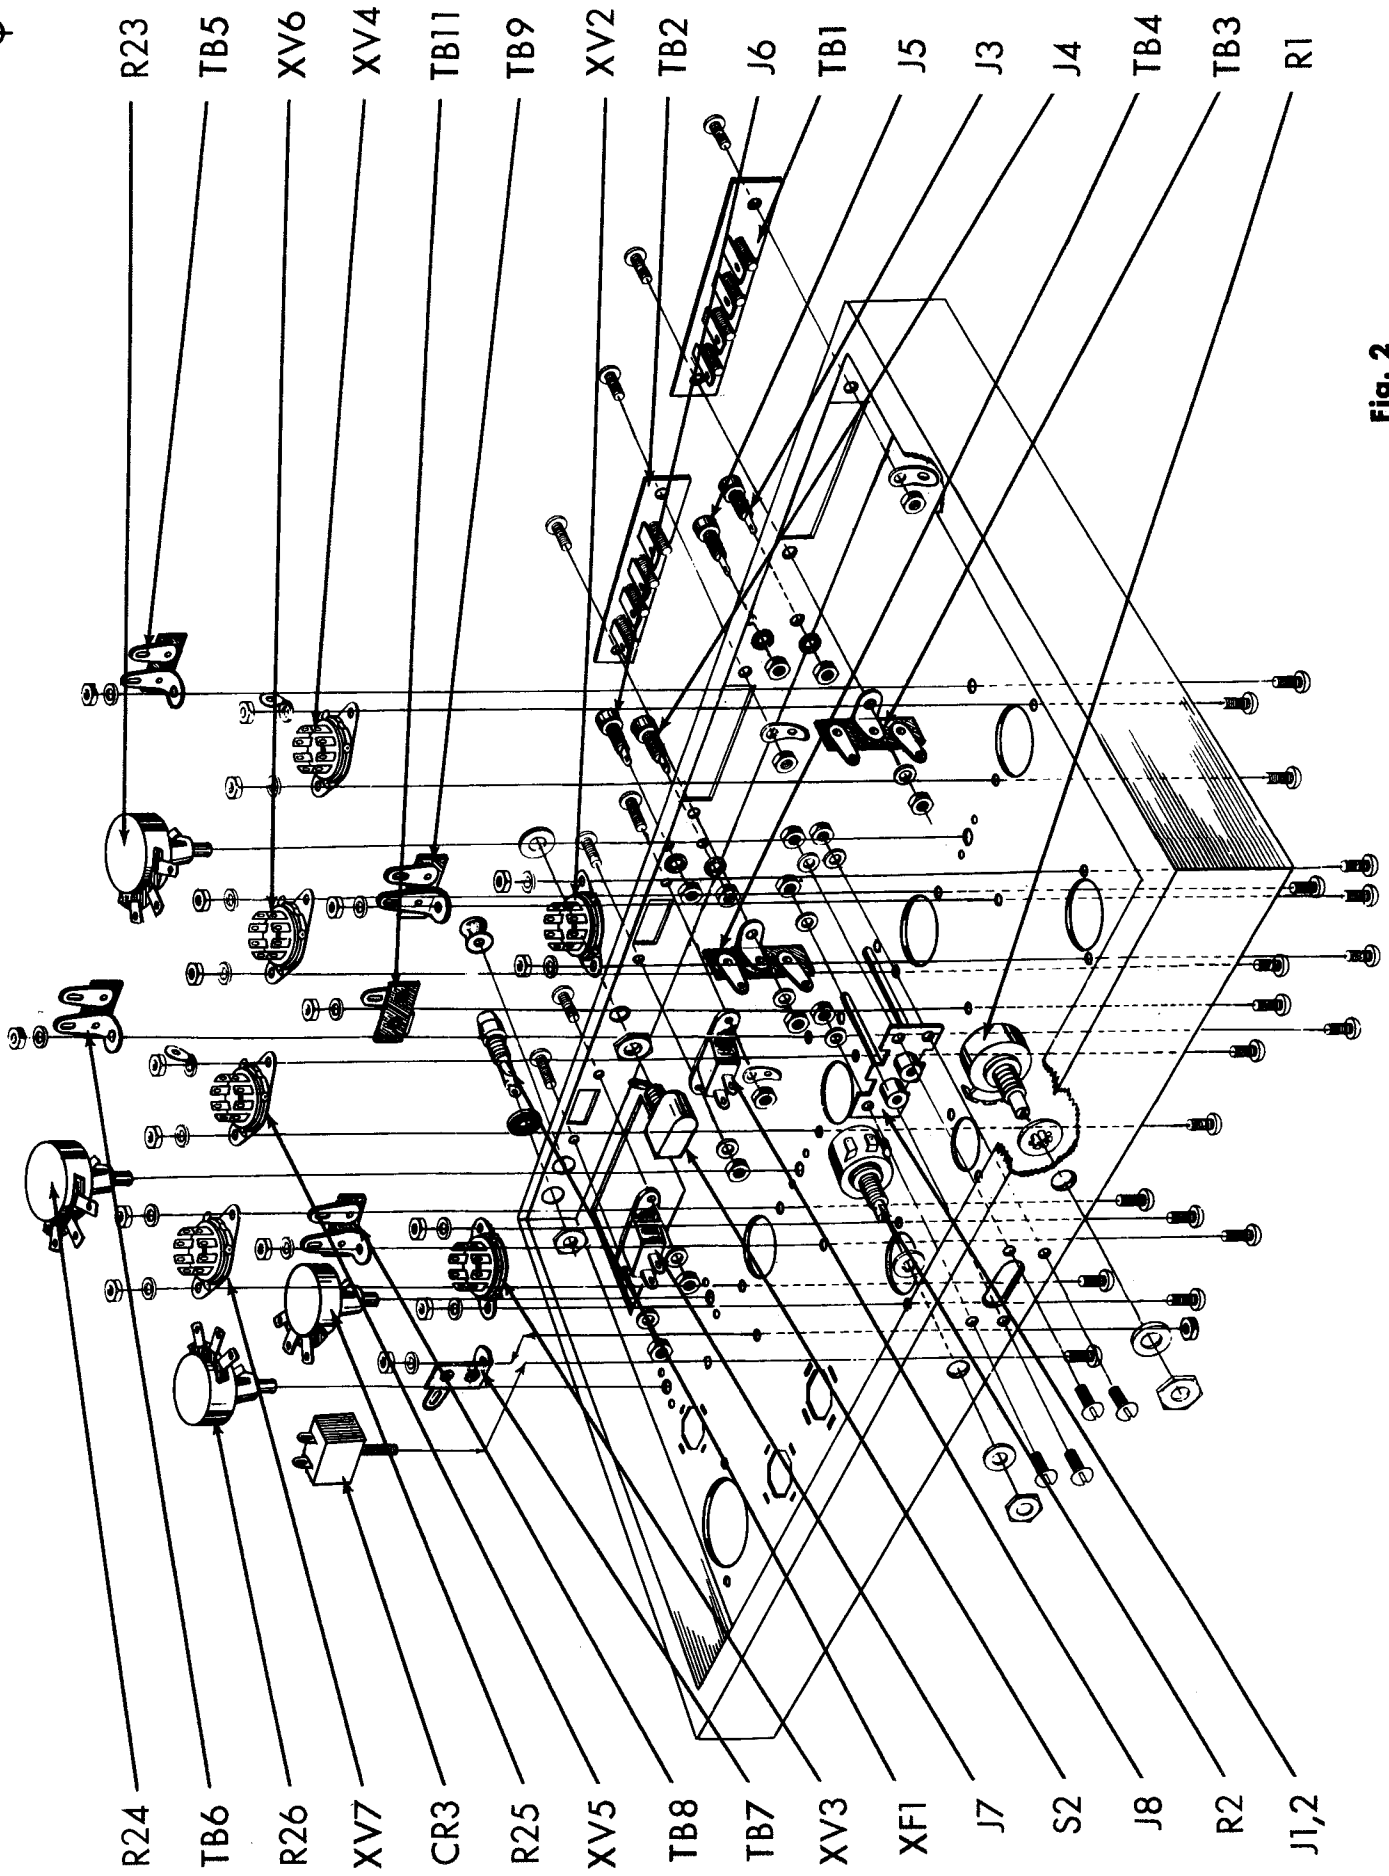

Fig. 2
- () 6. Fig. 2. Push a rubber grommet in the remaining hole in the rear apron of the chassis next to the fuseholder.
- () 7. Fig. 2. Mount the four 1 post right with ground terminal strips, TB5, TB6, TB8 and TB9; the 1 post upright right terminal strip, TB7; and the 1 post left terminal strip, TB11, as shown. Note the orientation of each of these terminal strips in figure #3. Use one #6-32 screw, one #6 lockwasher and one #6-32 hex nut to secure each terminal strip to the chassis.
- () 8. Fig. 2. Mount octal sockets XV2, XV3, XV4, XV5, XV6, and XV7 as shown. Note the orientation in figure #3. The number of each pin is indicated next to the pin on the bakelite portion of the socket. Use two #6-32 screws, two #6 lockwashers, and two #6-32 hex nuts to secure each socket to the chassis.
- () 9. Fig. 2. Mount the dual input jack, J1, 2, as shown. Use four #4-40 screws, four #4 lockwashers, and four #4-40 hex nuts.
- () 10. Fig. 2. Mount selenium rectifier CR3, as shown. Note the orientation (+terminal) in figure #3. Secure to the chassis with one #6 lockwasher and one #6-32 hex nut.
- () 11. Fig. 2. Mount potentiometers, R1 and R2, as shown. Use one 3/8 lockwasher inside the chassis and one 3/8 flatwasher and a 3/8 hex nut outside the chassis to secure each potentiometer to the front apron of the chassis.
- () 12. Fig. 2. Mount the two 10K pots, R25 and R26 in the holes near power transformer T1, as shown. Note the orientation in figure #3. Press each pot firmly towards the chassis until a click is heard and is held firmly to the chassis.
- () 13. Fig. 2. Similar to the above, mount the two 50K pots, R23 and R24. Note the orientation and location in figure #3. Press each pot firmly towards the chassis until a click is heard and is held firmly to the chassis.
- () 1. Fig. 2. On the rear apron of the chassis, mount the four screw terminal boards, TB1 and TB2, as shown. Use two #6-32 screws and two #6-32 hex nuts on each. Under one of the hex nuts, used for mounting each terminal board, mount a #6 ground lug. Under each of the remaining hex nuts used for securing the terminal boards TB1 and TB2 to the chassis, mount a 2 post terminal strip and a #6 lockwasher. Mount terminal strip TB3 under the lockwasher and hex nut used for securing TB1 to the chassis and terminal strip TB4 under the hex nut and lockwasher used for securing TB2 to the chassis.
- () 2. Fig. 2. Mount the two convenience outlets, J7 and J8, as shown. Use two #6-32 screws, two #6 lockwashers, and two #6-32 hex nuts on J7. Use two #6-32 screws, one #6 lockwasher, one #6 ground lug and two #6-32 hex nuts on J8.
- () 3. Fig. 2. Mount a 15/32-32 hex nut on the toggle switch S2. Adjust the nut so that only 1/16" of the screw threads are visible on the outside of the chassis when S2 is mounted. Secure the switch with a 15/32-32 ring nut. Tighten in position so that switch will not rotate.
- () 4. Fig. 2. Mount fuseholder XF1, as shown. Use a thin rubber washer outside the chassis. Use a 1/2"-32 hex nut so secure the fuseholder to the chassis. Do not tighten too much or the holder will crack.
- () 5. Fig. 2. Mount the four meter pin jacks, J3, J4, J5 and J6 with the hardware supplied on the jacks. Remove the nut and the fibre washer from the threaded portion of each jack. Pass the threaded portion of each jack through their respective holes in the rear apron of the chassis. Secure each jack with its fibre washer and hex nut inside of the chassis. The small shoulder on the fibre washers should seat in the mounting holes. If the assembly is properly completed, each jack will be insulated from the chassis.